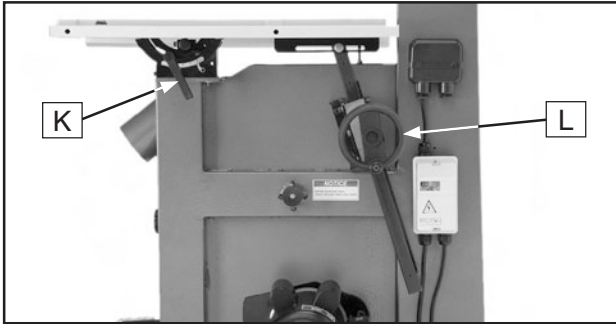

Figure 54. Table tilt controls (G0514X2/G0514X3).
- L. Table Tilt Handwheel (Figure 54, G0514X2/G0514X3):** Tilts the table up to 5° to the left or 45° to the right (refer to **Page 41**).